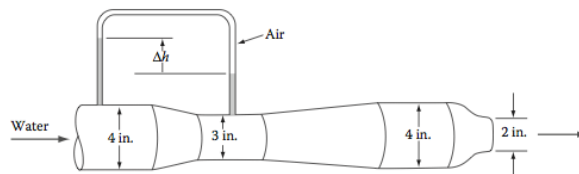

FIGURE P3.51
- 3.51** Water flows steadily through the system shown in Figure P3.51. The 4-in. section leads to a 3-in. throat, followed by a divergent section and, finally, a nozzle whose exit diameter is 2 in. An air-over-water manometer is connected between the 4-in. and 3-in. sections. Determine the expected reading Δh on the manometer if the velocity at the exit is 8 ft/s.